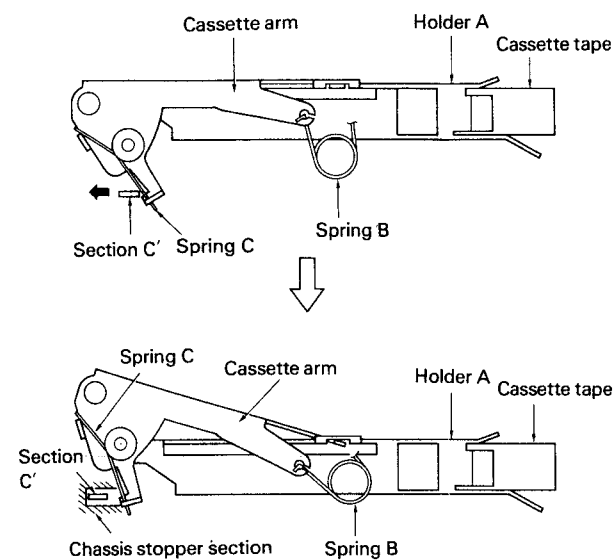

Fig. 14
- As shown in Fig. 14, the "C'" unit of arm "C" connects to the cassette arm (which suspends the cassette tape) through spring "C". The arm "C" movement described above in paragraph five makes the "C'" unit move in the direction indicated by the arrow in Fig. 14. The cassette arm pushes down holder "A" by means of spring "B". The "C'" unit is released when holder "A" drops down.